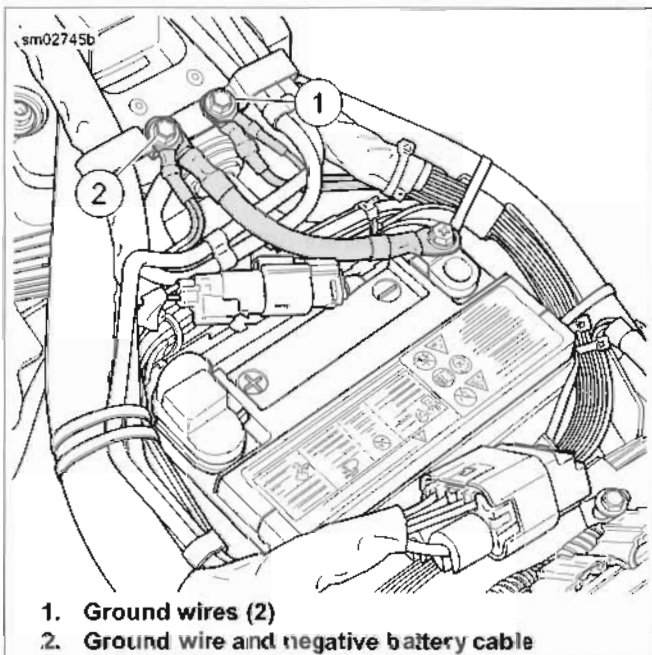

Figure 7-112. Ground Wires and Negative Battery Cable
14. See Figure 7-112. Attach ground wires to frame in front of battery. Negative battery cable attaches to right side post (2). See 7.12 BATTERY CABLES.